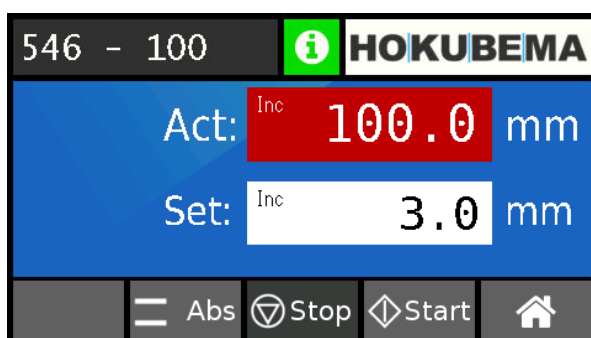

Figure 53: Setpoint input in incremental mode
- Then tap on the “**Set**” field and enter the desired incremental setpoint, e.g. **3.00** mm (⇒ Figure 53).
- The “**Act:**” field is highlighted in red until the setpoint value “**Set:**” is reached (see ⇒ Figure 53).